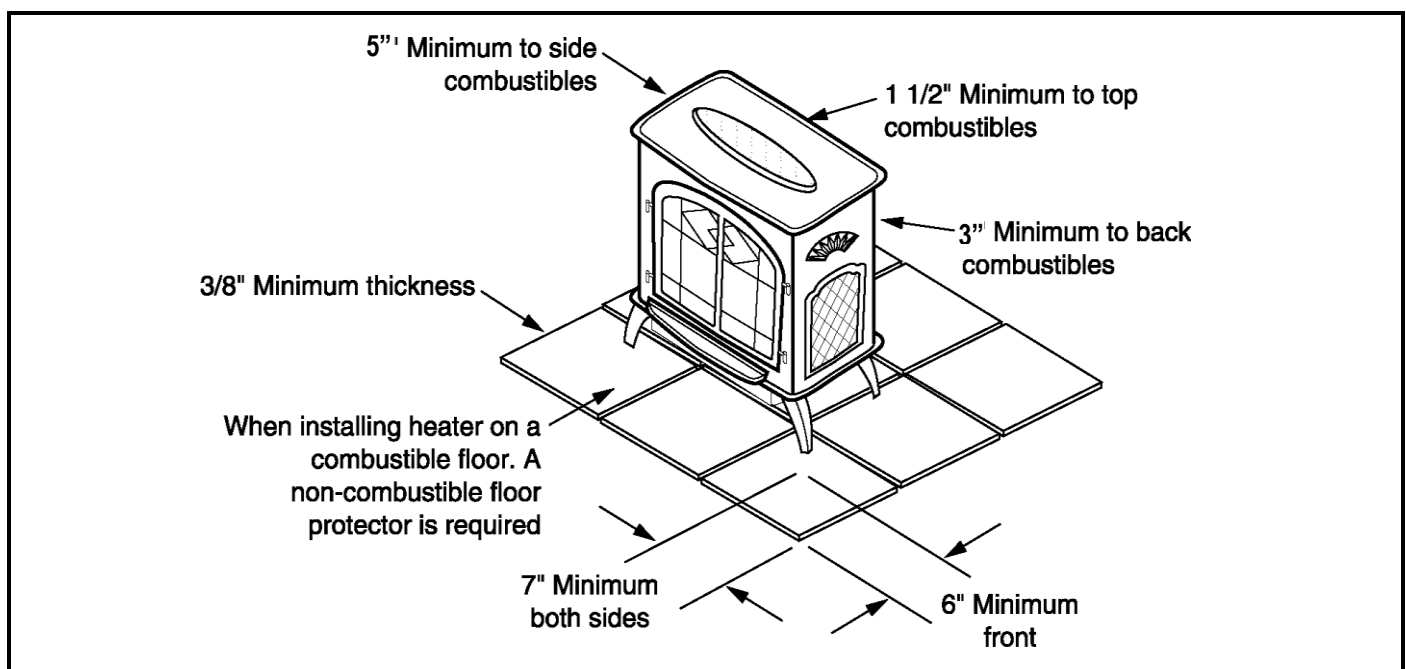

FIGURE 3
4. A non-combustible hearth pad must be used if installed on a carpet, wood floor, or other combustible material (see FIGURE 3). Maintain 6" (152mm) beyond the front and beyond each side of the fuel loading and ash removal opening.
5. Keep front door of appliance thirty-six (36) inches from combustibles (drapery, furniture).